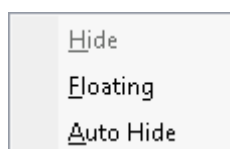

Figure 5-2. Context menu of title bar
The context menu opens, see Figure 5-2.
- Click and drag the **Scheduler**, **Log View** or **Completed LabBooks** title bar or tab, see Figure 5-2.